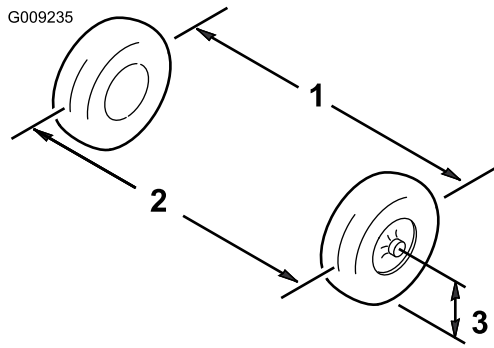

Figure 32
4. Measure the distance between both of the front tires at the axle height at both the front and rear of the front tires (Figure 32).